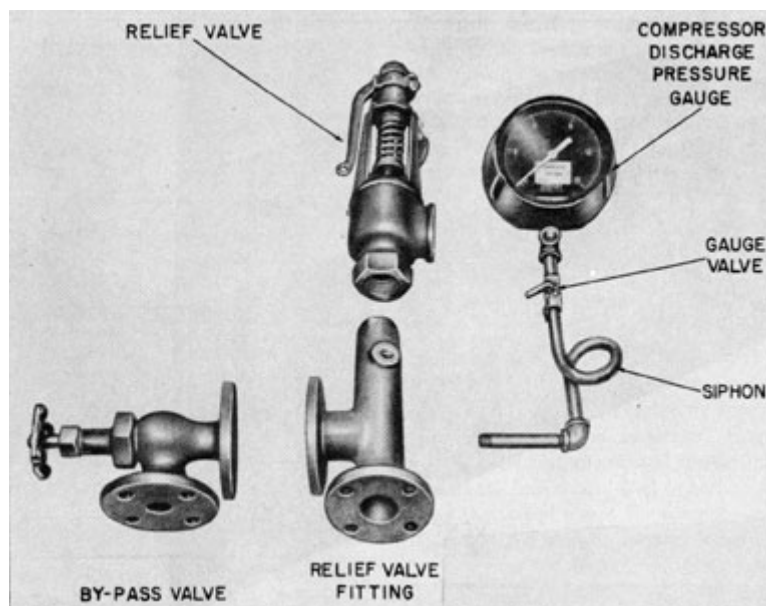

Figure 10-5. Evaporator fittings.
**10D8. Compressor discharge pressure gage.** The graduations of the compressor discharge pressure gage are zero to 15 pounds per square inch. Mounting is on top of the evaporator beside the compressor discharge relief valve. (See Figure 10-5.)
**10D9. Compressor discharge relief valve.** The compressor discharge relief valve is set to relieve at 7 1/2 pounds gage pressure. (See Figure 10-5.)
**10D10. Bypass, valve.** The 1-inch bypass valve (V2) which is mounted on top of the evaporator is connected to the 3-inch i.d. pipe on the pressure side of the compressor, and discharges into the vapor separator on the suction side of the compressor. (See Figure 10-5.)